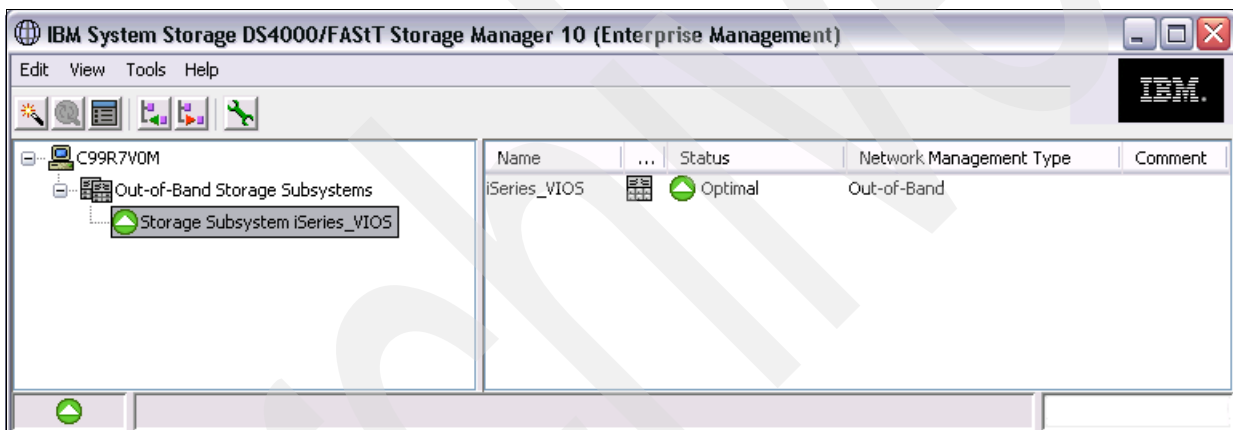

Figure 7-44 DS Storage Manager window
1. We start the DS Storage Manager client by selecting from the Windows' taskbar **Start** → **Programs** → **Storage Manager 10 Client** → **Storage Manager 10 Client** and double-clicking the DS4800 Storage System **iSeries\_VIOS**, as shown in Figure 7-44.